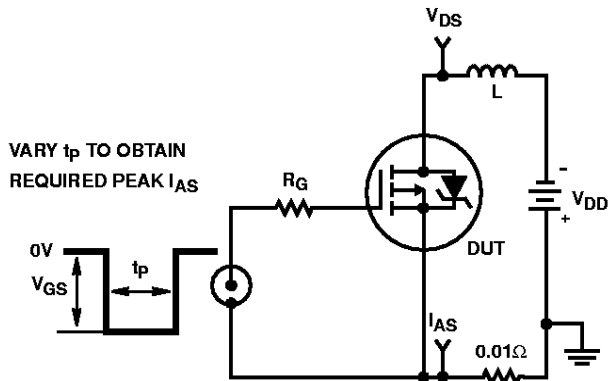

FIGURE 15. UNCLAMPED ENERGY TEST CIRCUIT
- $V_{DD} = 25\text{V}$, starting $T_J = 25^\circ\text{C}$, $L = 5.2\text{mH}$, $R_G = 25\Omega$, peak $I_{AS} = 12\text{A}$. See Figures 15, 16.